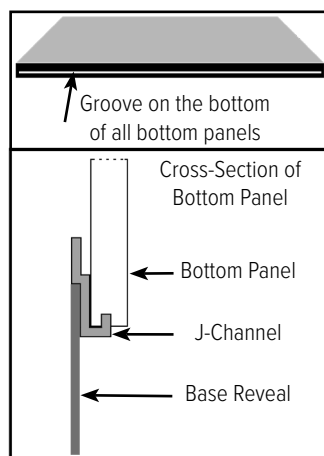

Figure 3.2.1
3.2.1 Set bottom panel groove on the J-Channel as shown in Figure 3.2.1.